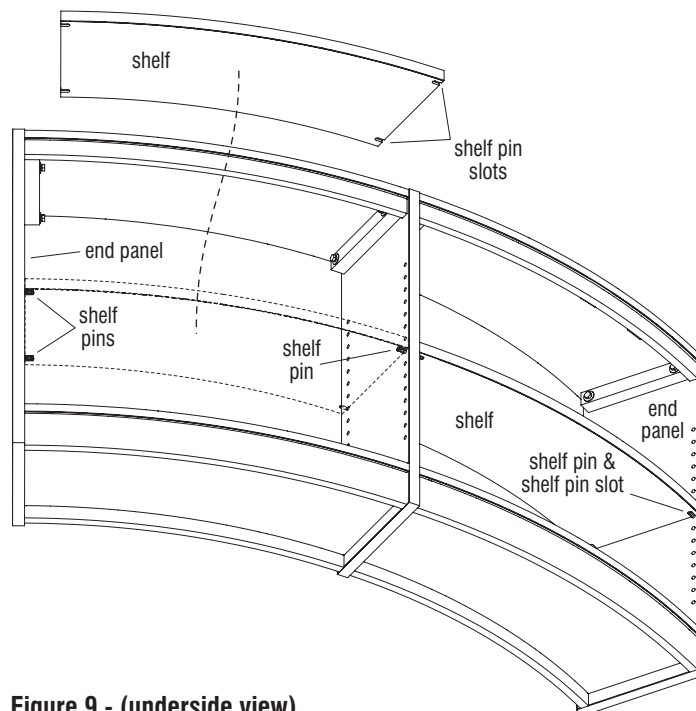

Figure 9 - (underside view)
13. Align the shelf pin slots at the underside of the shelf with the shelf pins installed in the end and intermediate panels, then place the shelf on top of the three pins (Figure 9 & Detail K).